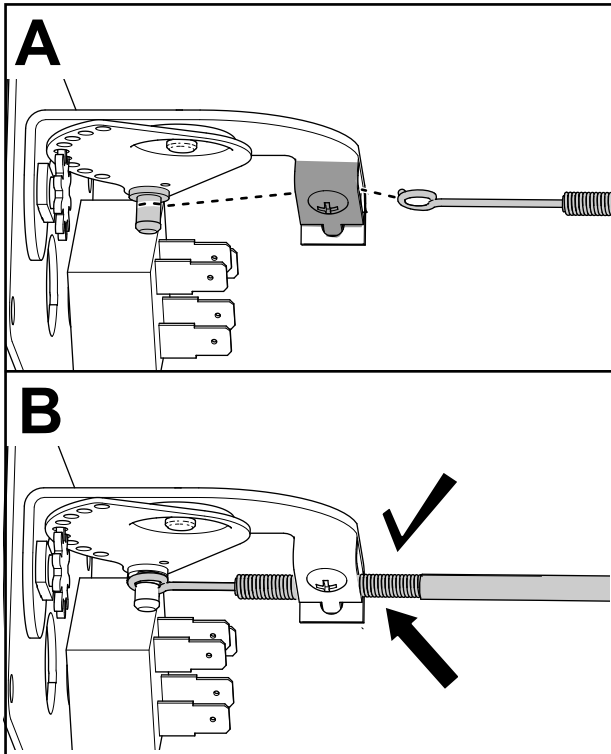

Figure 7
7. Ensure that the heater switch is in the middle position and connect one end of the control cable to the back of the heater switch (Figure 7).